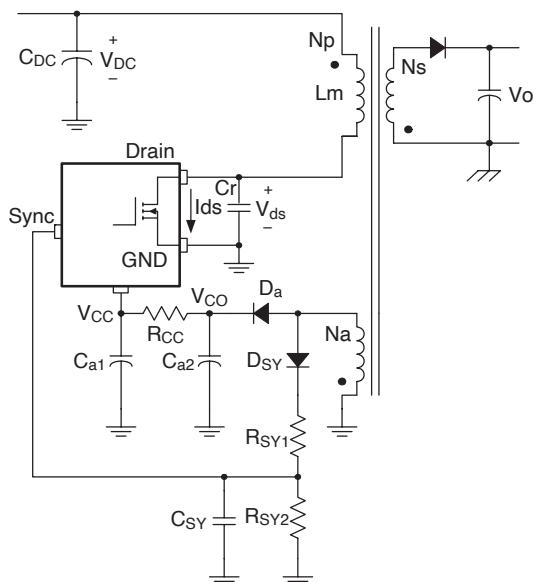
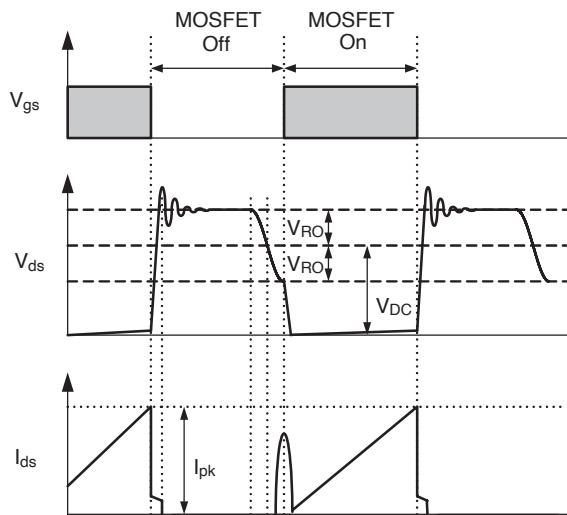
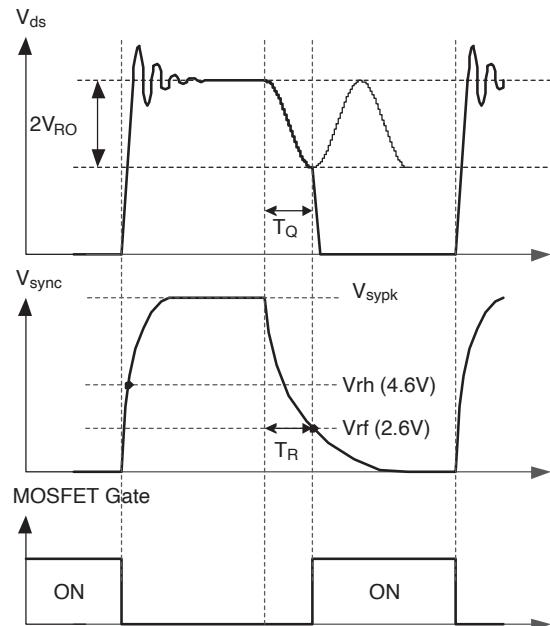

Figure 6. Synchronization Circuit
Figure 7. Quasi-Resonant Operation Waveforms
Figure 8. Normal Quasi-Resonant Operation Waveforms
2. Synchronization: The FSCQ-Series employs a quasi-resonant switching technique to minimize the switching noise and loss. In this technique, a capacitor (Cr) is added between the MOSFET drain and the source as shown in Figure 6. The basic waveforms of the quasi-resonant converter are shown in Figure 7. The external capacitor lowers the rising slope of the drain voltage to reduce the EMI caused when the MOSFET turns off. To minimize the MOSFET's switching loss, the MOSFET should be turned on when the drain voltage reaches its minimum value as shown in Figure 7.
The minimum drain voltage is indirectly detected by monitoring the Vcc winding voltage as shown in Figure 6 and 8. Choose voltage dividers, R_{SY1} and R_{SY2} , so that the peak voltage of the sync signal (V_{sypk}) is lower than the OVP voltage (12V) to avoid triggering OVP in normal operation. It is typical to set V_{sypk} to be lower than OVP voltage by 3–4V. To detect the optimum time to turn on MOSFET, the sync capacitor (C_{SY}) should be determined so that T_R is the same with T_Q as shown in Figure 8. The T_R and T_Q are given as, respectively: